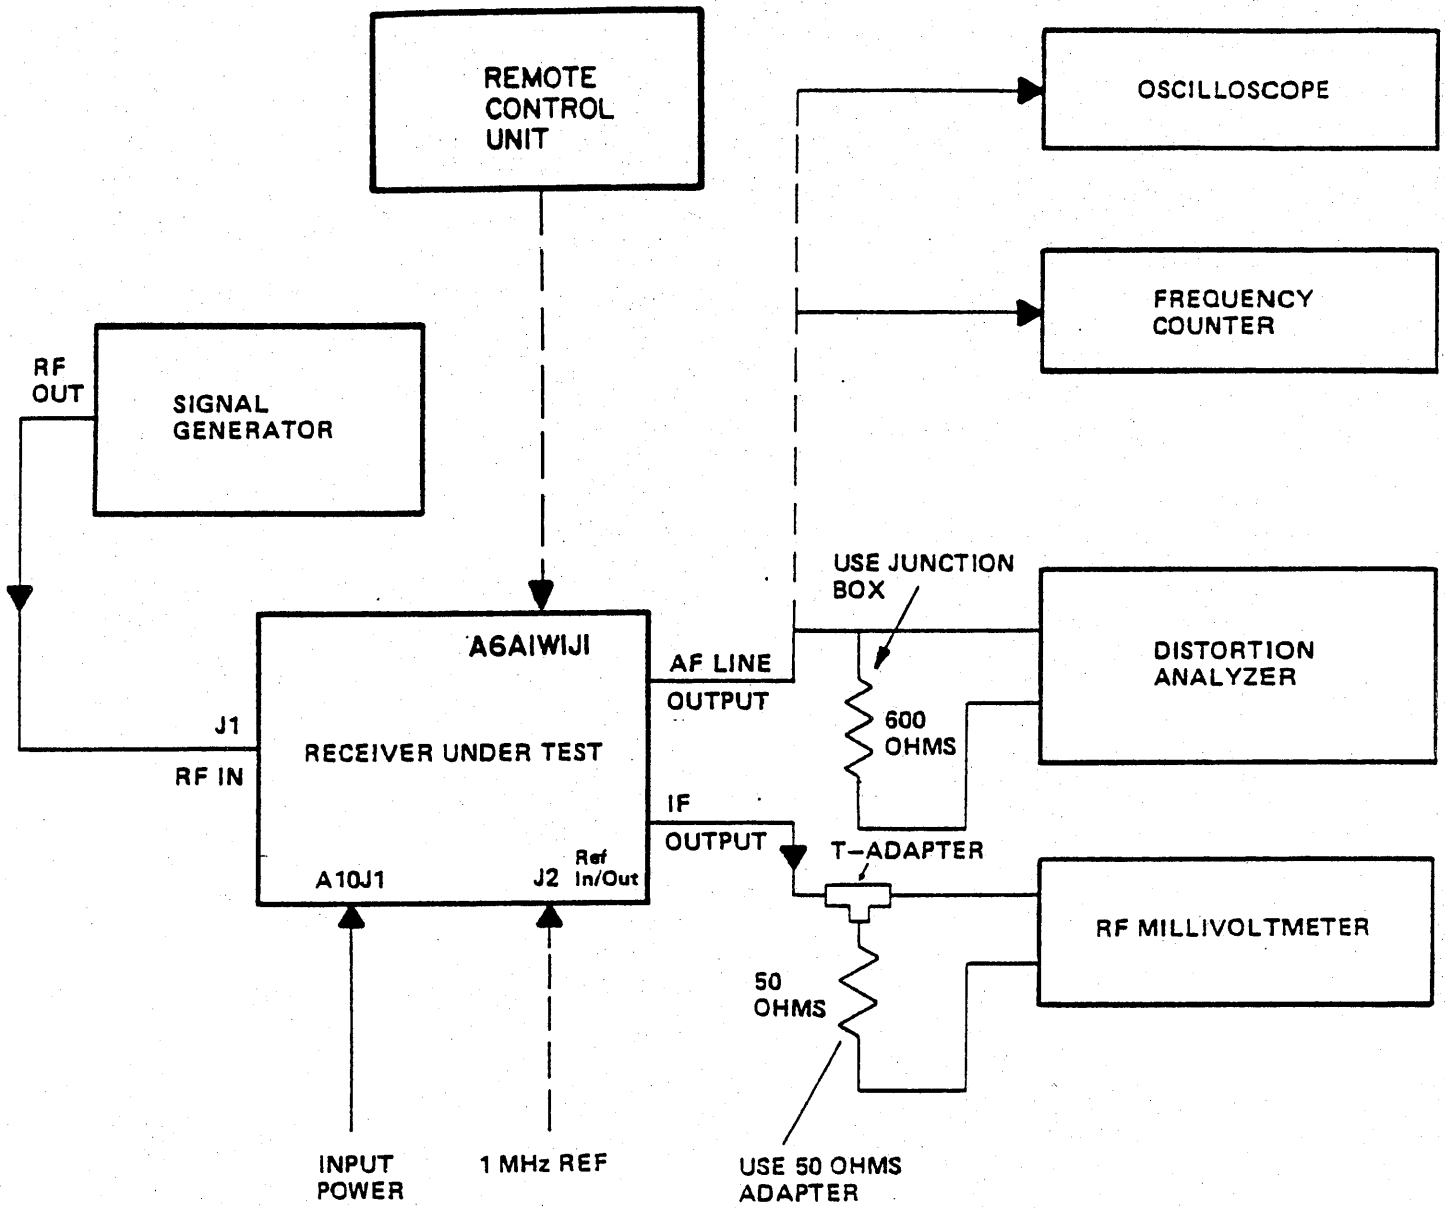

Figure 5-1. Standard Test Equipment Configuration
All tests should be conducted using Figure 5-1 as a standard test set-up. Equipment should be allowed a warm-up period of at least 30 minutes prior to conducting the test. If the Receiver does not satisfactorily pass a test, refer to Paragraph 5.6, Board Level Fault Isolation.
1. Connect the receiver and test equipment as shown in Figure 5-1.
1. Set up the equipment as in Figure 5-1.
1. Set up the equipment as shown in Figure 5-1.
1. Set up test equipment as shown in Figure 5-1.